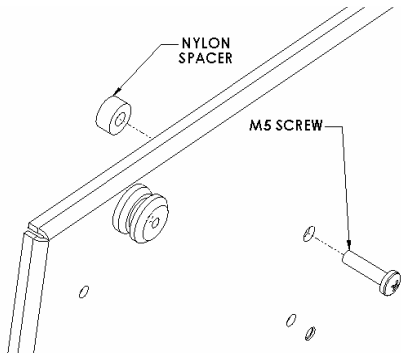
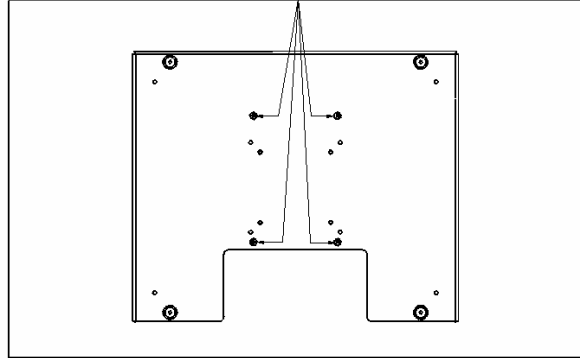

Figure 4
Figure 5
2. Place Nylon spacers on mounting holes, aligning hole pattern on brackets with pattern on back of the display (see Figure 4 & Figure 5).